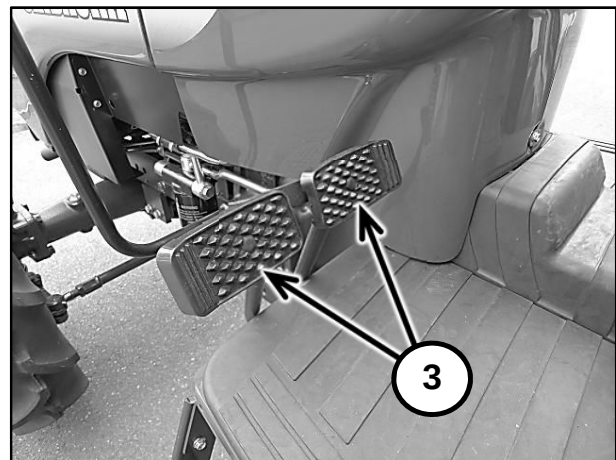

Figure 2-25
Depress both pedals (3) in Figure 2-25, simultaneously to stop the tractor. To assist in making sharp turns at slow speed, depress the right or left brake pedal as required.